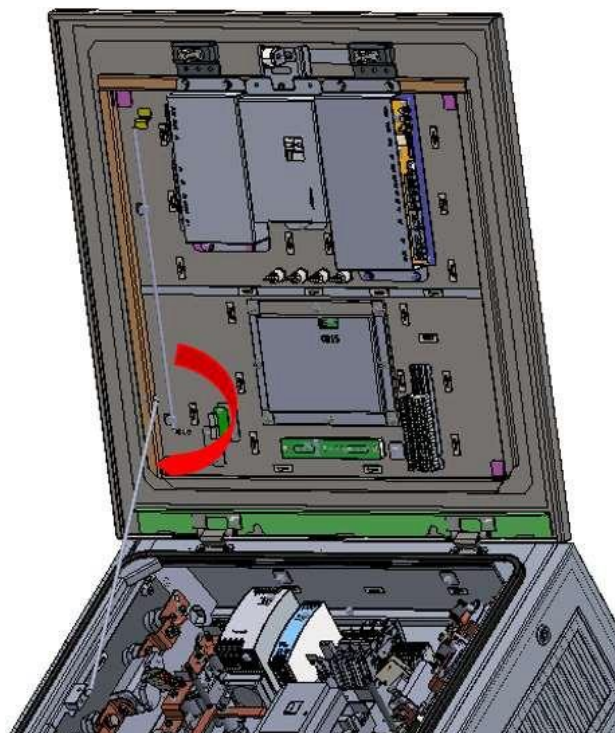

Figure 13 Opening the front door
(6) Open the front door from the bottom of the charger main body, remove the brace and prop up the front door, as shown in Figure 13.